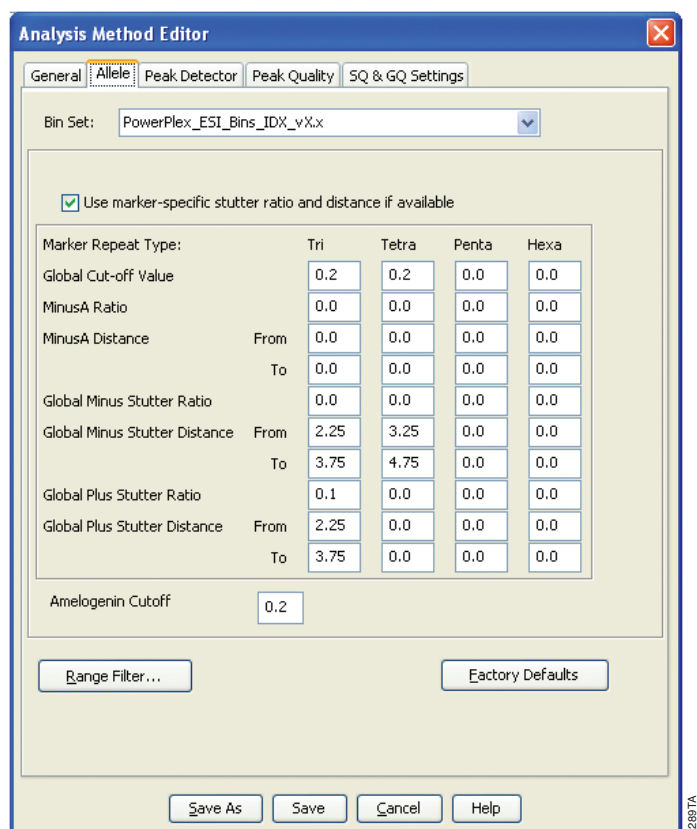

Figure 25. The GeneMapper® ID-X 'Allele' tab with settings for using a 20% peak filter.
5. Enter a descriptive name for the analysis method, such as "PowerPlex ESI 17 Pro 20% Filter." Select the 'Allele' tab (Figure 25).
7. Ensure that the 'Use marker-specific stutter ratio and distance if available' box is checked. Doing this will assign locus-specific stutter filters and distances from the imported stutter file. Ensure that the appropriate global filter is applied to this analysis method. For example, for a 20% filter, enter "0.20" for the Amelogenin Cutoff and Global Cutoff Value for Tri and Tetra repeats (Figure 25).